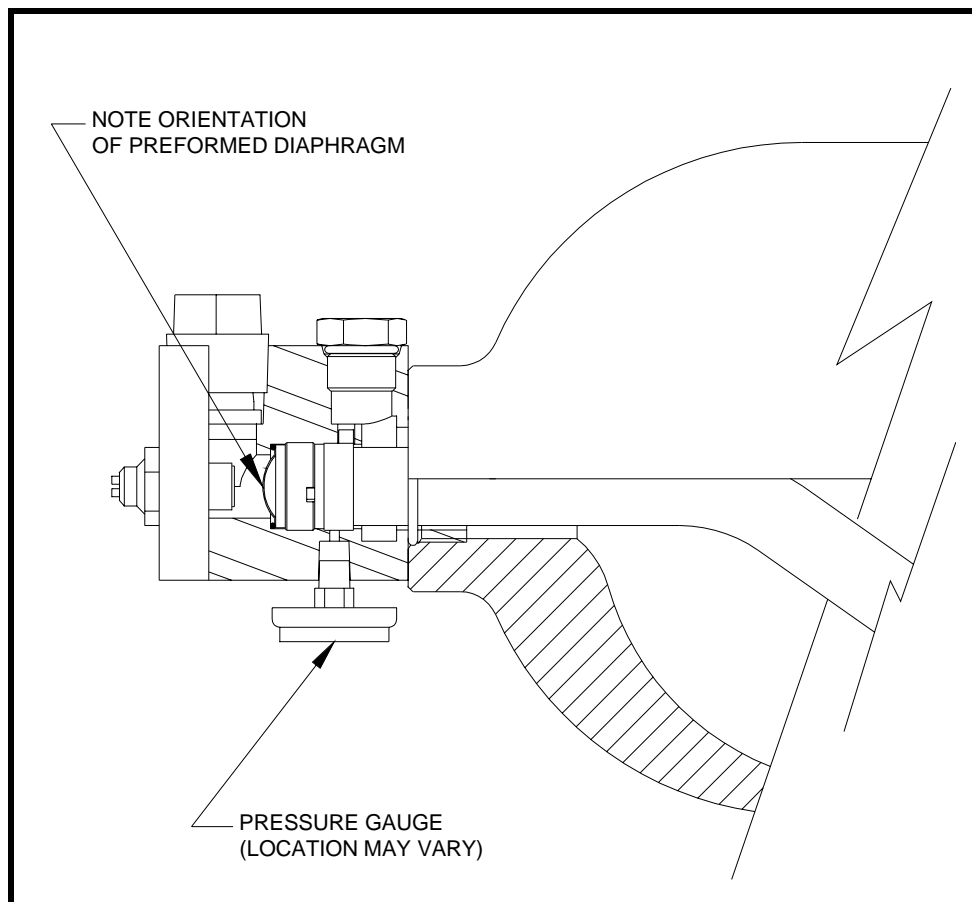

Figure 3. Diaphragm Orientation
2. Lubricate the new diaphragm and insert it into the port, on top of the O-ring. See Figure 3 for orientation. Incorrect diaphragm orientation may cause failure.
11. Look at the screen in the outlet port. If the screen looks like the obsolete item in Figure 3, replace it with P/N 406250. Check that the discharge screen is installed in the discharge port with its dished side inward and install the anti-recoil plug into the discharge port.